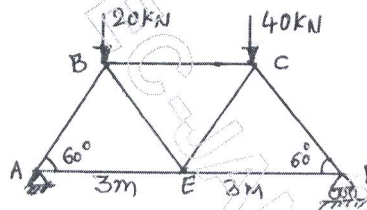

Fig.Q1(b)
b. Analyze the plane truss shown in Fig.Q1(b) using method of joints and tabulate the forces in members of truss.